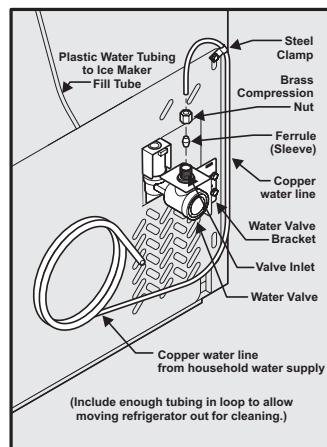

Figure 1
4. **If you use copper tubing** - Slide brass compression nut, then ferrule (sleeve) onto water supply line. Push water supply line into water valve inlet as far as it will go (1/4 inch/6.4 mm). Slide ferrule (sleeve) into valve inlet and finger tighten compression nut onto valve. Tighten another half turn with a wrench; DO NOT over tighten. See Figure 1.